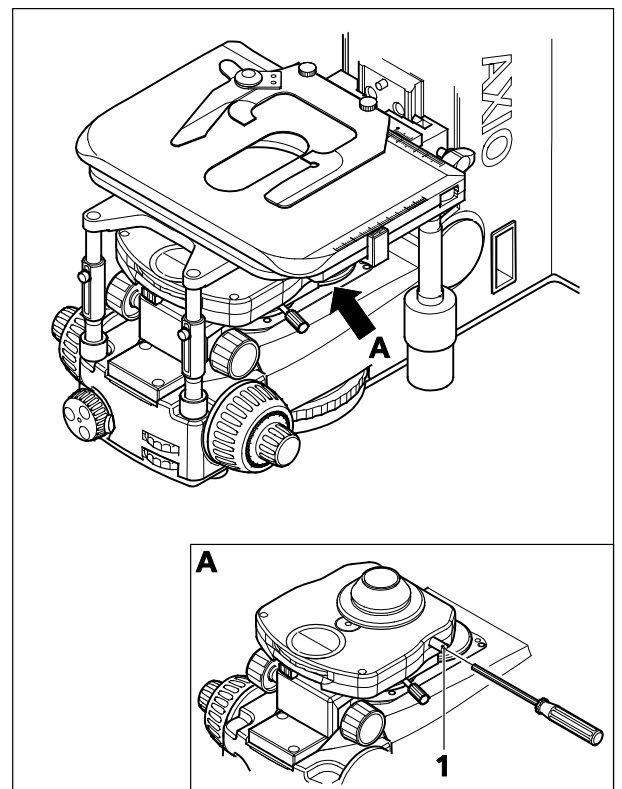

Figure 4-6 Adjusting oblique illumination
(3) Adjusting oblique illumination
- Use the adjusting screw (width A/F 1) (Figure 4-6/1) at the condenser to turn the stop's slot segment into the desired position.